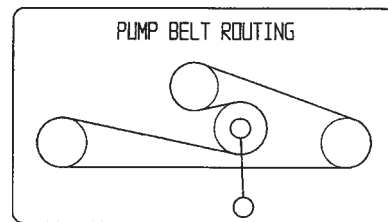

Figure 72
- Pull the spring loaded idler down and remove the traction belt from the engine and hydro pump pulleys (Fig. 72). Remove the belt between the pulleys.
- Install the new belt around the engine and hydro pump pulleys (Fig. 72).
- Pull the spring loaded idler down and align it below the traction belt. Release the pressure on the spring loaded idler (Fig. 72).